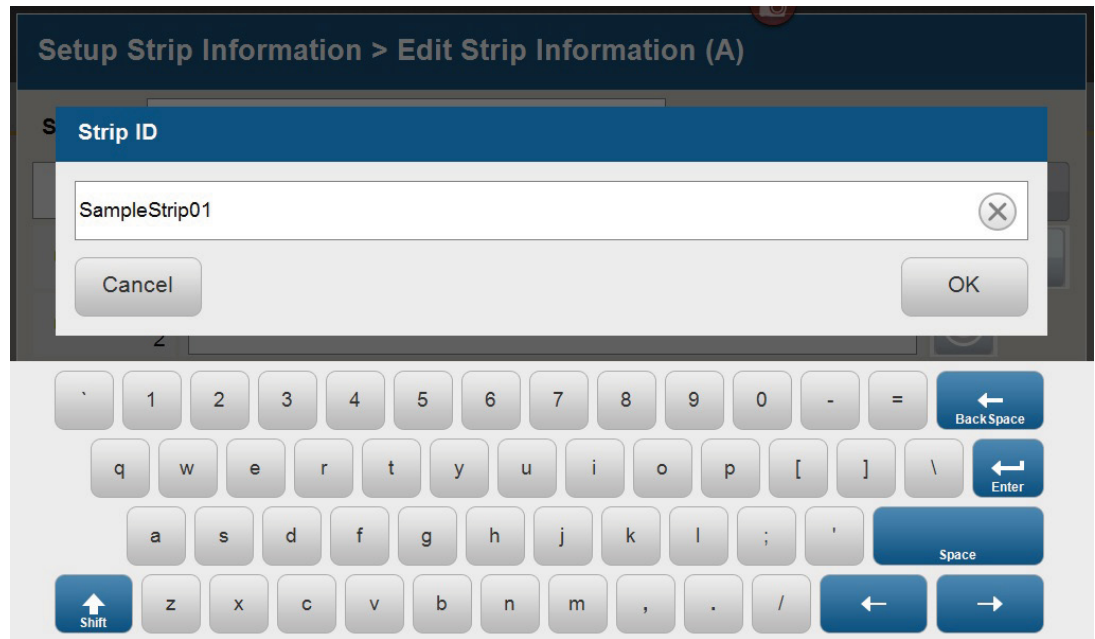

Figure 11. 'Set Strip ID' window.
3. The default Strip ID is date and time. It can be modified by selecting the **Strip ID** field. This opens the 'Set Strip ID' window and a keypad will become active on the touch screen (Figure 11). Alternatively, the Strip ID can be entered using a traditional keyboard if one is connected to the Spectrum Compact CE System. Enter the appropriate Strip ID, and then select **OK** to exit and return to the 'Edit Strip Information' screen.